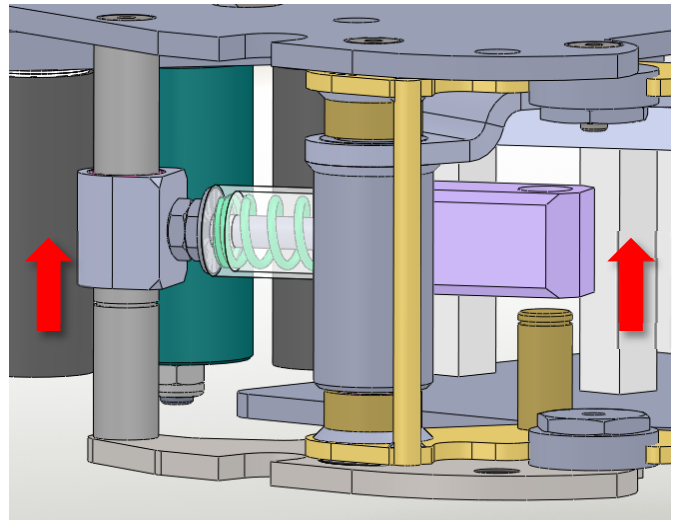

Figure 10-10
2. Slide off the repulsive pivot assembly from current position as shown in Figure 10-10.